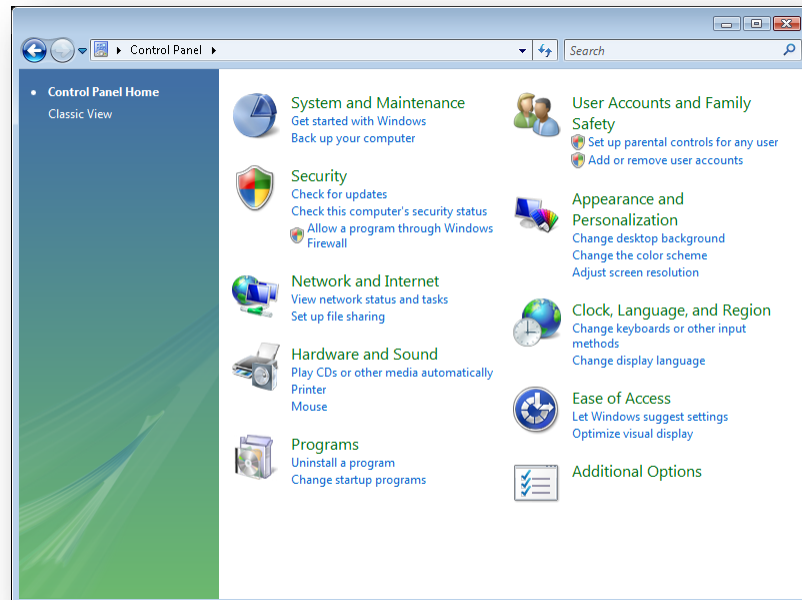

Figure 21 – Control Panel
2. If the Control Panel resembles Figure 21, the Control Panel is set to Category view. If the Control Panel is set to Category view, click on “Programs”, then click on “Programs and Features”.